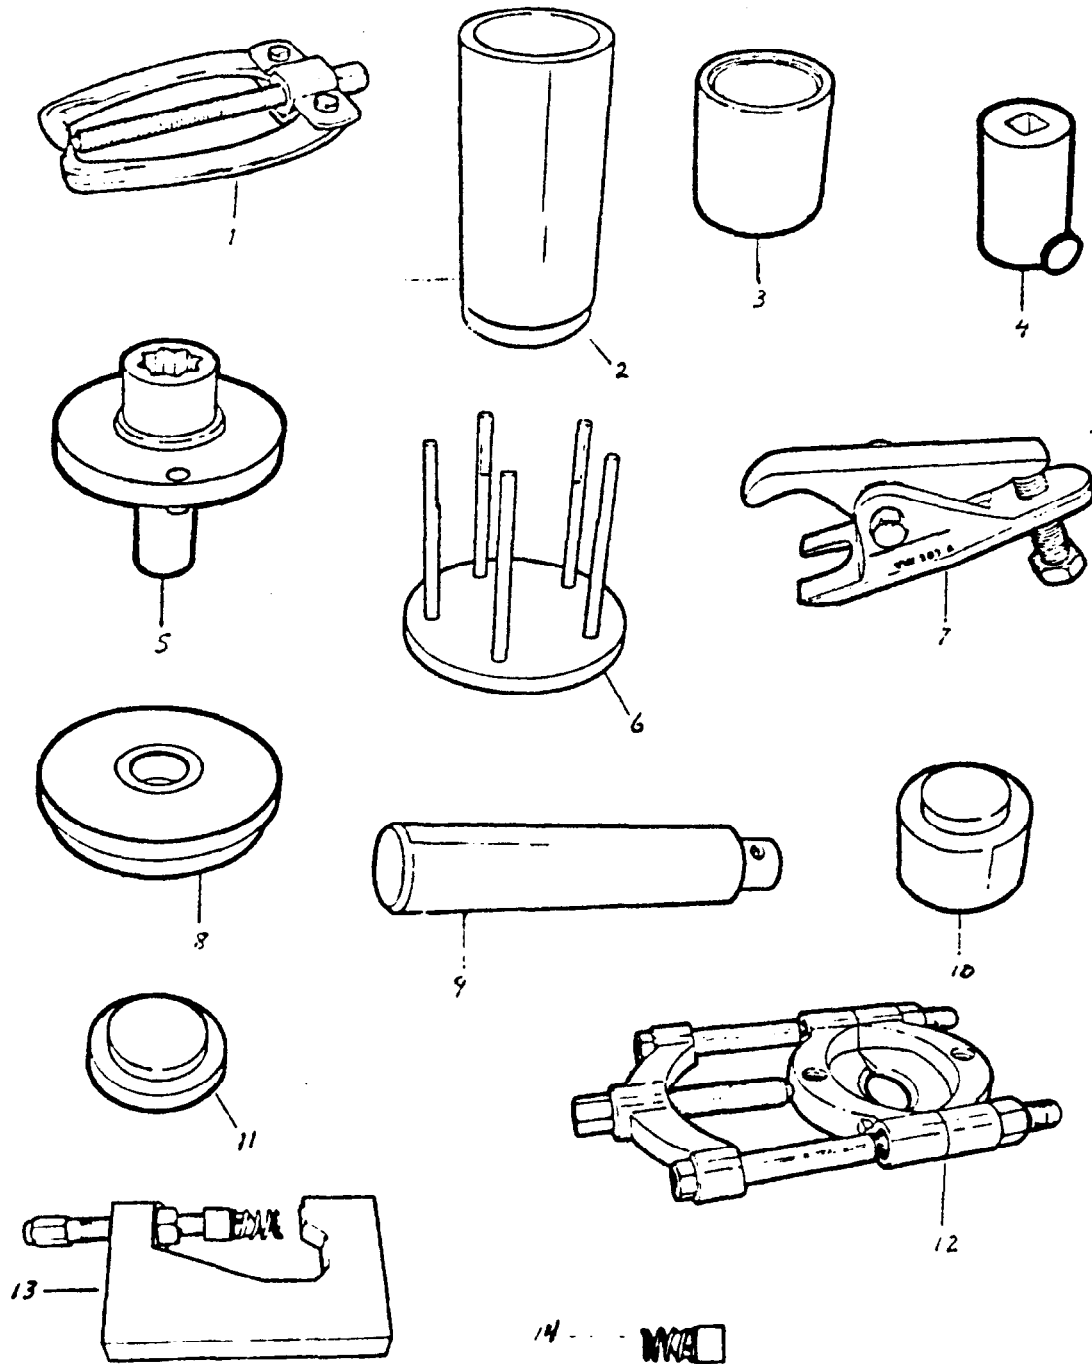

Figure 15 Special tools
3.7 Special tools.- Table V lists the special tools recommended for use in rebuilding the hub and drum assembly, see Figure 15 for identification.